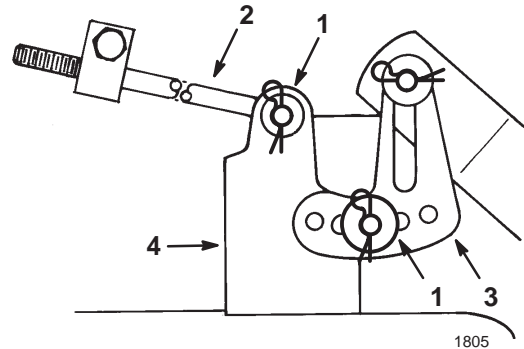

Figure 40
15. Remove the hairpin cotter and washer from the end of the long rod (Fig. 40).
17. Remove the hairpin cotter and washer at the mower leveling bracket (Fig. 40).